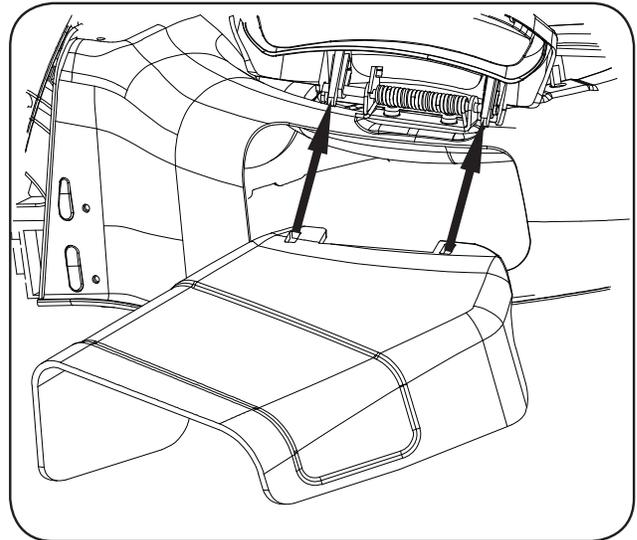

Figure 6
2. Slide two hooks of side discharge cover under hinge pin on mulching cover assembly (Figure 6).